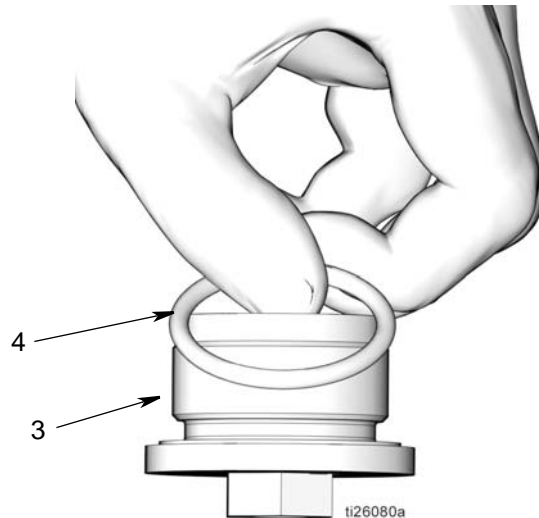

FIG. 54
- d. Apply a thin layer of grease to o-ring (4). Install o-ring to piston stop nut (3) (FIG. 54).